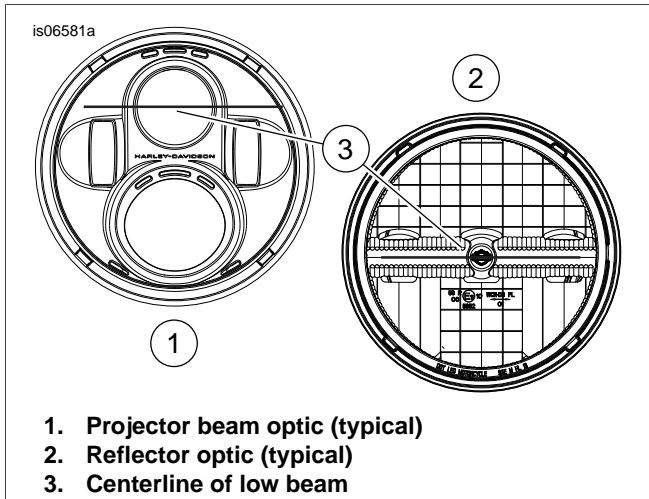

Figure 1. Headlamp Configuration
4. See Figure 1. With vehicle laden and upright, point the front wheel straight forward at wall and measure the distance from the floor to the center of the **low beam** lens (3). Record this measurement.